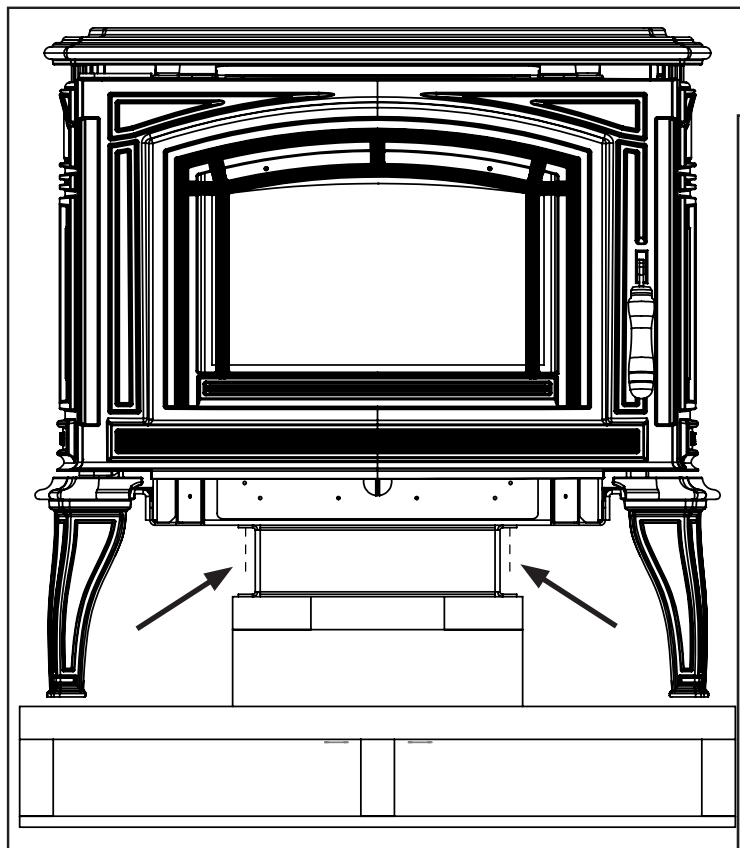
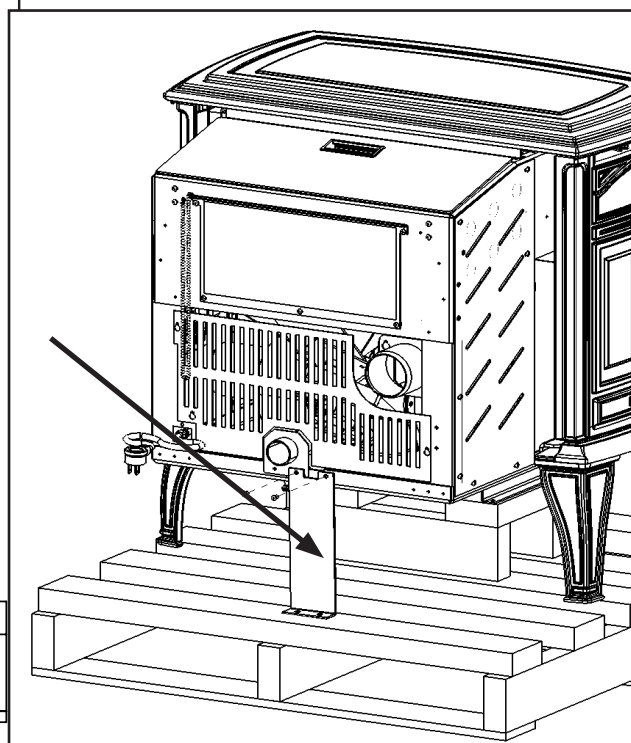

Figure 12: Meridian Cast Iron - Bottom Screws
Figure 13: Meridian Cast Iron - Rear Screws
To remove your new stove from its pallet, remove the four (4) screws securing the bottom to the pallet using a 3/8" socket or wrench (see Figure 12). Next, remove the two (2) screws securing the rear shipping brace using a T20 screwdriver (see Figure 13). The steel shipping brackets are not part of the stove and can be recycled. Once the stove is removed from the pallet the four bottom screws must be re-installed to seal the firebox. Re-install the two rear screws as well.
Table 1: Use in conjunction with Figure 13 for allowable exterior vent termination locations.